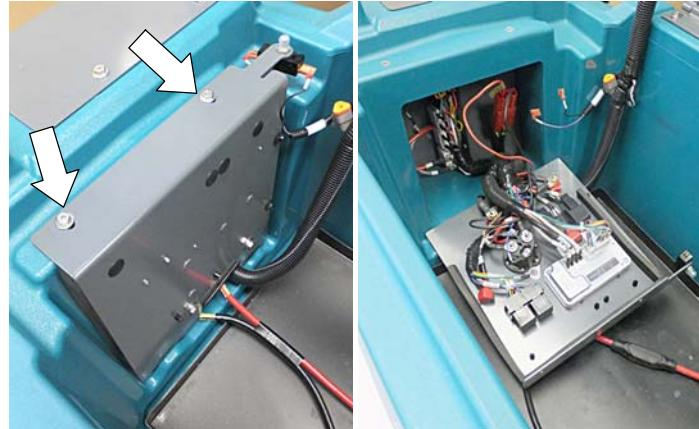

Fig. 3
5. Remove the top two screws from the electrical panel and carefully lower panel as shown (Figure 3).